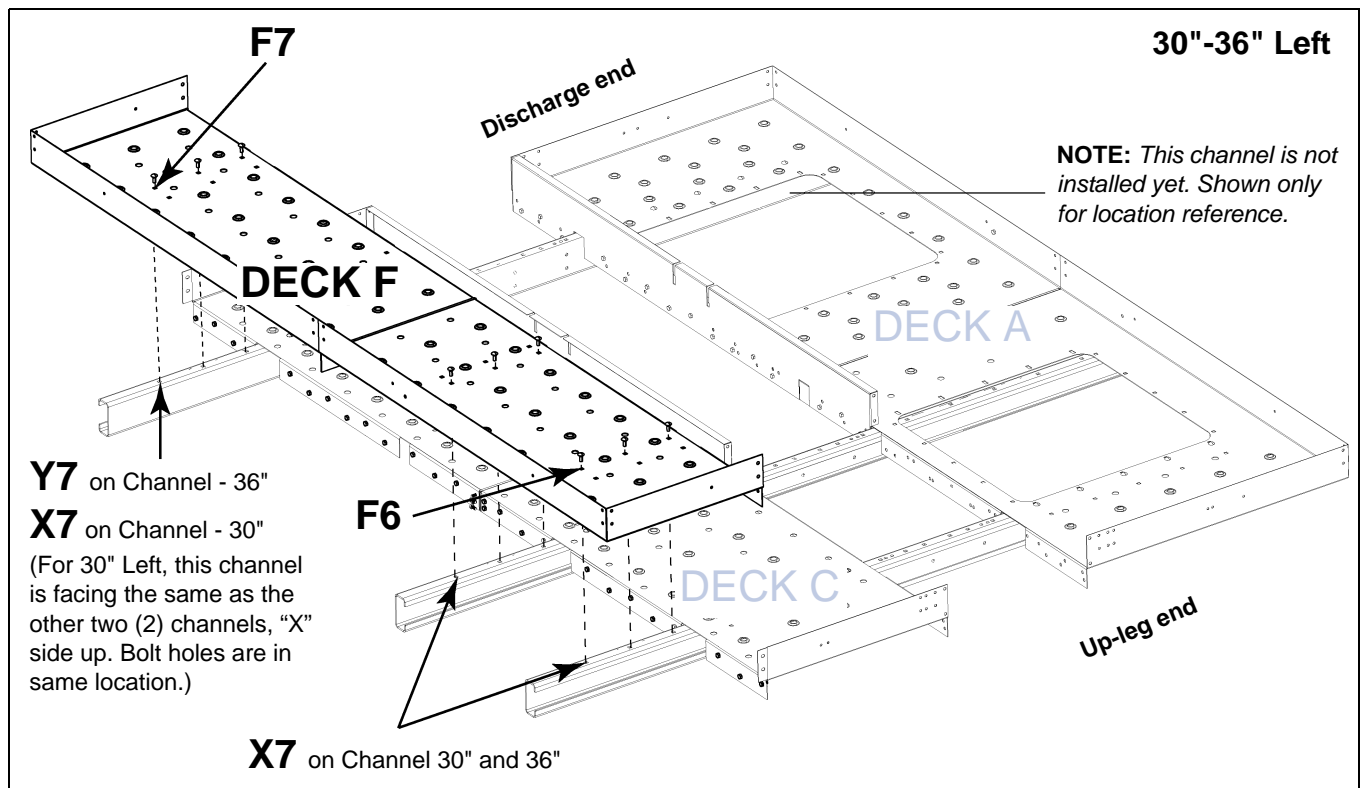

Figure 9L Deck F to Cross Deck Support Channel
1. Locate pre-assembled Deck F. This deck consists of two (2) planks.
2. Orient Deck F with hole **F7** at the discharge end of the lower head and **F6** at the up-leg end. (See Figure 9L.)
- b. F Deck hole **F1** to C deck hole **C7**. (See Figure 9L.)
(See Figure 9L on Page 77.)